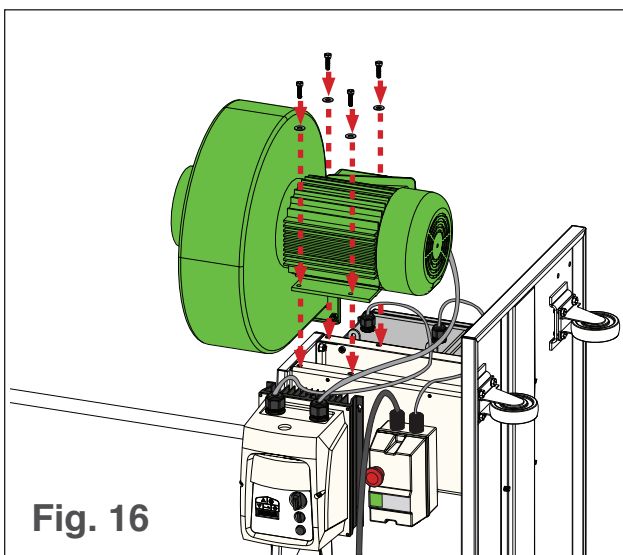

Fig. 16
3. Place all four bolts through the flat washers, then through the motor assembly and motor support (see Fig. 16). The motor is connected via cables to the Trim Saver's electrical components. These will be bolted to the frame later. Ensure the cables are placed between the base plate and motor bolts during this step.